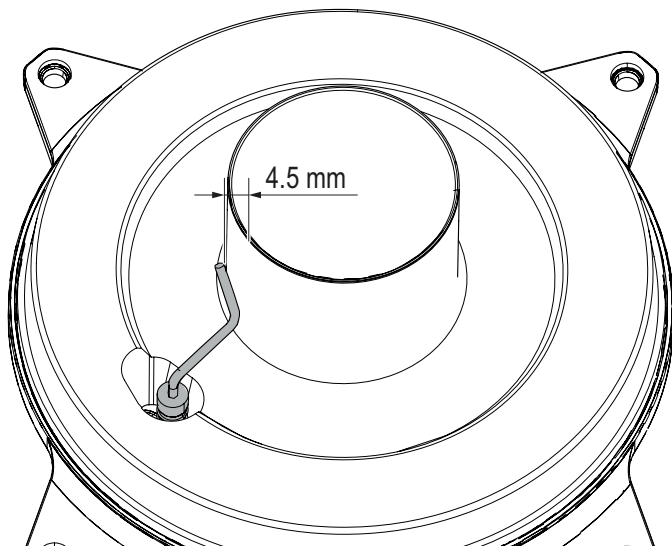

Figure 17.7
- 1 Check for the correct distance between the metallic edge of the electrode and burner (see Figure 17.7).
The electrode in Figure 17.7 also functions as a sensor for the correct drainage of the condensate.